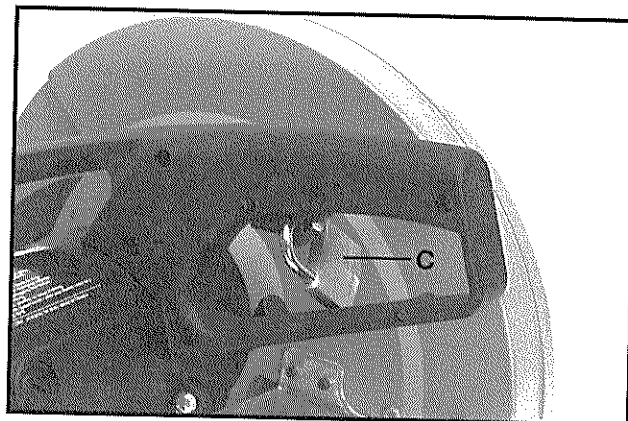

Fig. 7
A lock hole through the trigger switch is provided for a padlock (C), Fig. 7, with a 1 1/4" shackle. A padlock can be placed through this hole and locked to prevent unauthorized use of the machine. We recommend that a lock be installed whenever the machine is not in use.